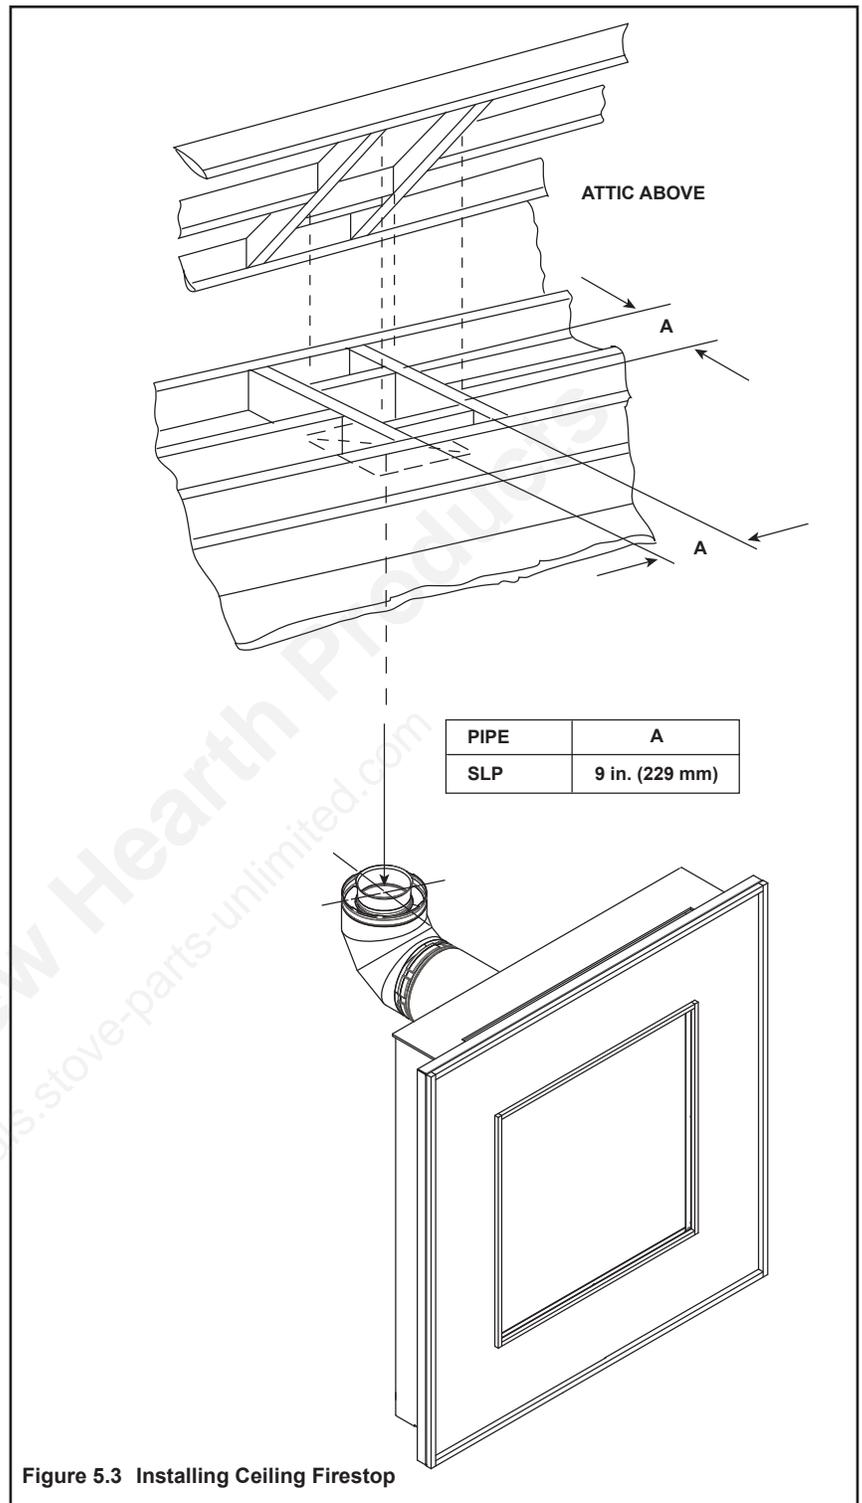

Figure 5.3 Installing Ceiling Firestop
- Frame opening 9 in. x 9 in. (229 mm x 229 mm) whenever the vent penetrates a ceiling/floor. See Figure 5.3.